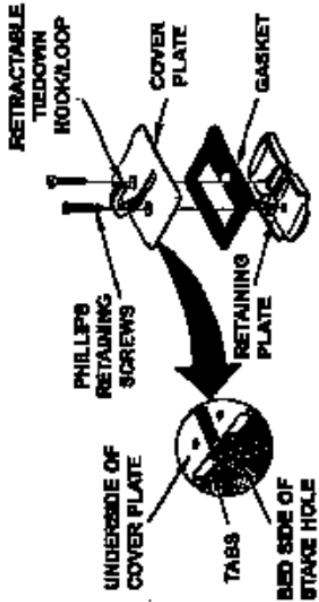

FIGURE 1
Make certain that the cover plate is square and centered over the stake hole. Cover plate is centered when tabs on underside of coverplate are against edge of stake hole, as shown in Figure 1. Press the cover plate toward the truck bed and tighten retaining screws with a screwdriver.
**INSTALLATION WITH A BED LINER OR IRON PROTECTOR:** Place the liner in the truck box. Lift the rail of the liner enough to accurately determine the location of the stake pockets. Carefully drill a hole through the liner using a 1 7/8" hole saw centered over the stake pocket location. Install retractable bedown assembly as shown in Figure 1.